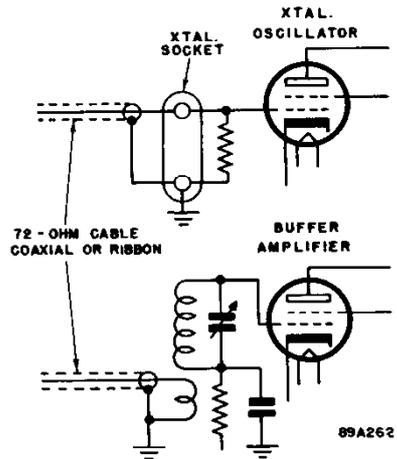

Figure 3. Methods of coupling exciter unit to transmitter
2. OUTPUT TERMINAL STRIP - The unit has been designed to operate with a 72-ohm cable, which may be coaxial or ribbon type line. Refer to Fig. 3. for recommended connections at the transmitter end of the line. When using an unterminated line as in the case of feeding a crystal stage, avoid lengths that are multiples of a quarter wave length in the amateur bands. In general a six foot coaxial